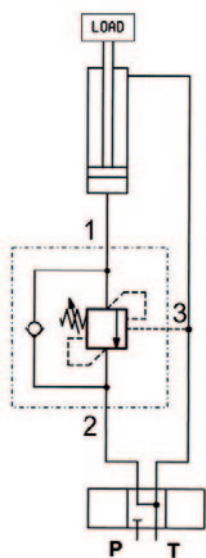

FIGURE 1
With reference to Figure 1, during descent, the pressure acting on the rod side of the cylinder also acts on the pilot line (3) of the valve, aiding its opening.
Load-induced pressure also pushes the cylinder downward. We call the pressure on the port (3)  $P_p$ , the load-induced pressure  $P_c$ , the setting pressure of the valve  $P_{TAR}$  and the pilot ratio  $R$ . Neglecting back pressure, for a scheme as in Figure 1, we have that the minimum pressure required to operate the valve descent